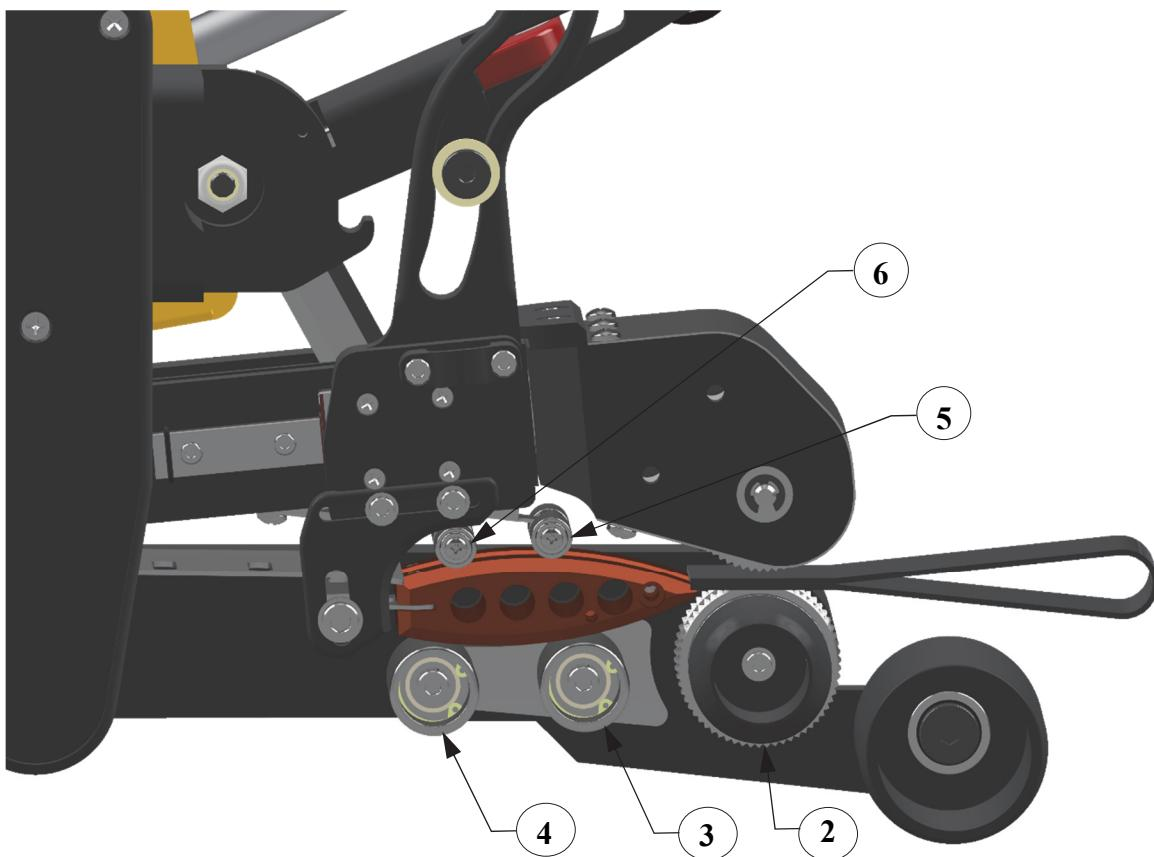

Figure 7.6
The lower contour rollers (#3 and #4, Figure 7.6) are located below the heating wedge and are mounted to the lower frame directly in front of the lower nip roller (#2 Figure 7.6). For the adjustment you will need a 13mm open ended wrench and a 4mm and 6mm allen wrench.
- 7.3.1 With the nip pressure lever in the up position and the wedge in the disengaged position, insert the adjustment material that you cut earlier from the template into the Pro-Wedge as shown in Figure 7.6 above:
- 7.3.2 With a Phillips screw driver remove lower frame chain cover to expose the lockdown bolt for the front lower contour roller (#4, Figure 7.6).
- 7.3.5 Adjust the front lower contour roller (#4, Figure 7.6) up and to the right (counterclockwise) until it just comes in contact with the material. The roller should have a slight amount of resistance as you rotate it. If you adjust it to tight it will rock the wedge and change the rear roller (#3) adjustment.
- 7.3.7 With material set-up piece in place and with nip lever and wedge engaged as shown on Figure 7.6, use a 5mm Allen wrench to loosen the wedge mount bolt that connects the wedge hex mount to the lock mount (#1, Figure 7.7). For HDPE set-up, position lock bolt as far down in slot as possible and tighten bolt.